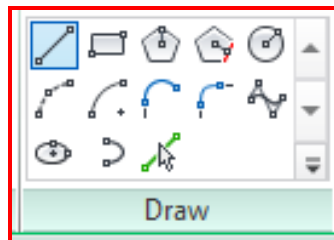

Figure 2.7
- Use the sketching tools or **Draw** tools to sketch the extrusion profile, for example sketch a square as shown in Figure 2.7: